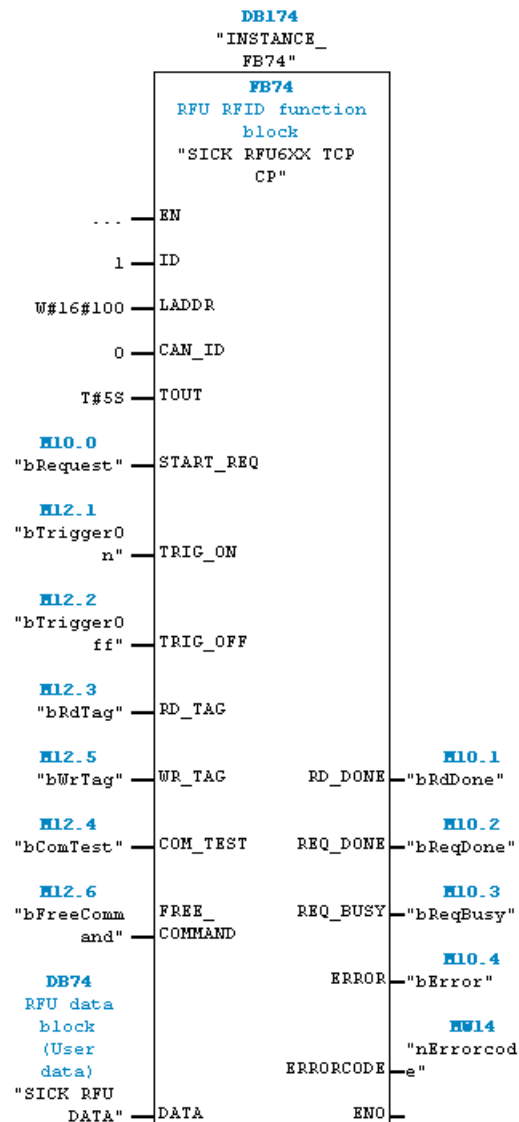

Figure 16: Example of a connected SICK RFU6XX TCP CP function block
Figure 16 shows an example of a connected SICK RFU6XX TCP CP function block. The TCP connection to the SICK sensor has been configured in advance using NetPro and the (ID) and (LADDR) connection parameters transferred to the function block (see chapter 3.2). A zero is entered for the CAN ID because the RFU is not operating on a CAN network.